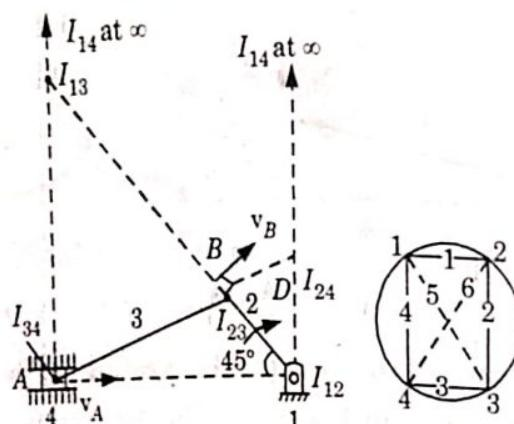

Fig. 1.20.2.
3. Locate the fixed and permanent instantaneous centres by inspection. These centres are I_{12} , I_{23} and I_{34} as shown in Fig. 1.20.2. Since the slider (link 4) moves on a straight surface (link 1), therefore the instantaneous center I_{14} will be at infinity.
4. Locate the other two remaining neither fixed nor permanent instantaneous centres, by Arnold Kennedy theorem. This is done by circle diagram as shown in Fig. 1.20.2. Mark four points 1, 2, 3 and 4 on the circle to indicate I_{12} , I_{23} , I_{34} and I_{14} .